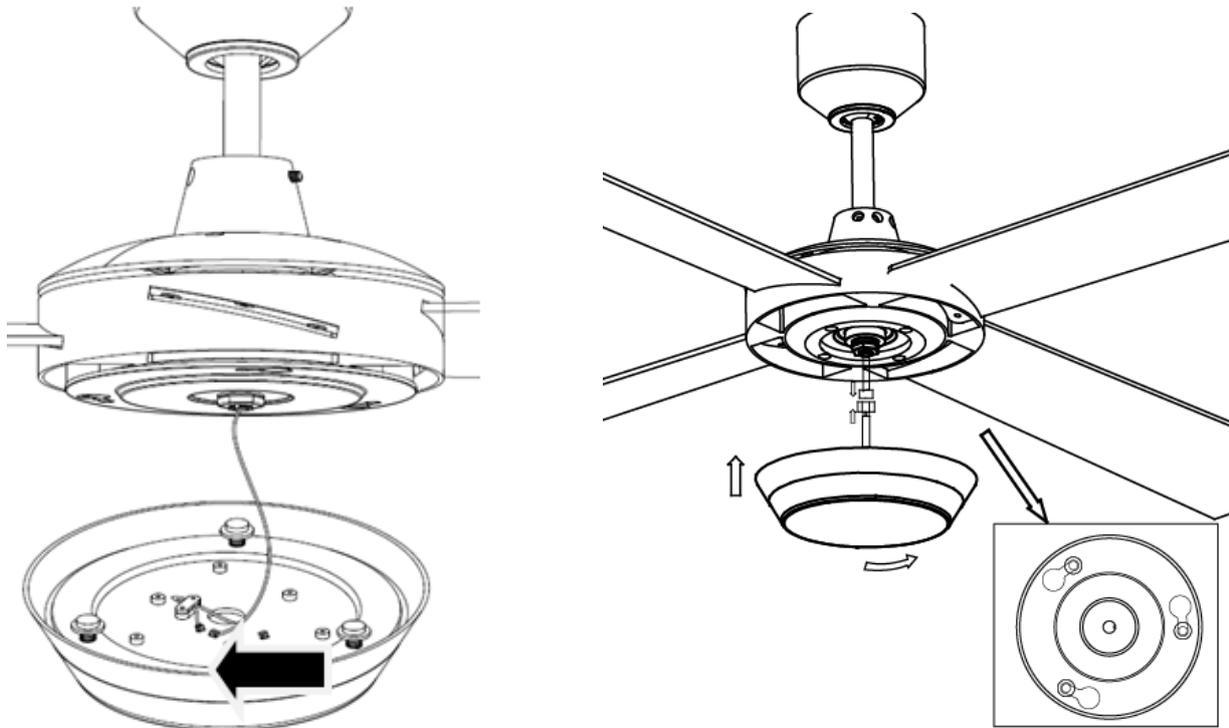

Fig.7
8. Lift up the LED light kit to the lamp base and connect the LED power wires to the LED light kit via the quick connectors. Then press the housing assembly screws into the big ends of keyhole slots, and turn the LED light kit body clockwise until the housing assembly screws are firmly situated in the narrow ends of the keyhole slots. **Fig.7**